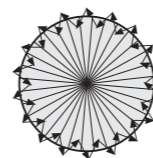

FIG.19
- 4.2.4 Walk from outside across to the detection pattern until LED turns on for approx. 1.5sec then off, the next trigger should be 7.5sec interval (See FIG.19).